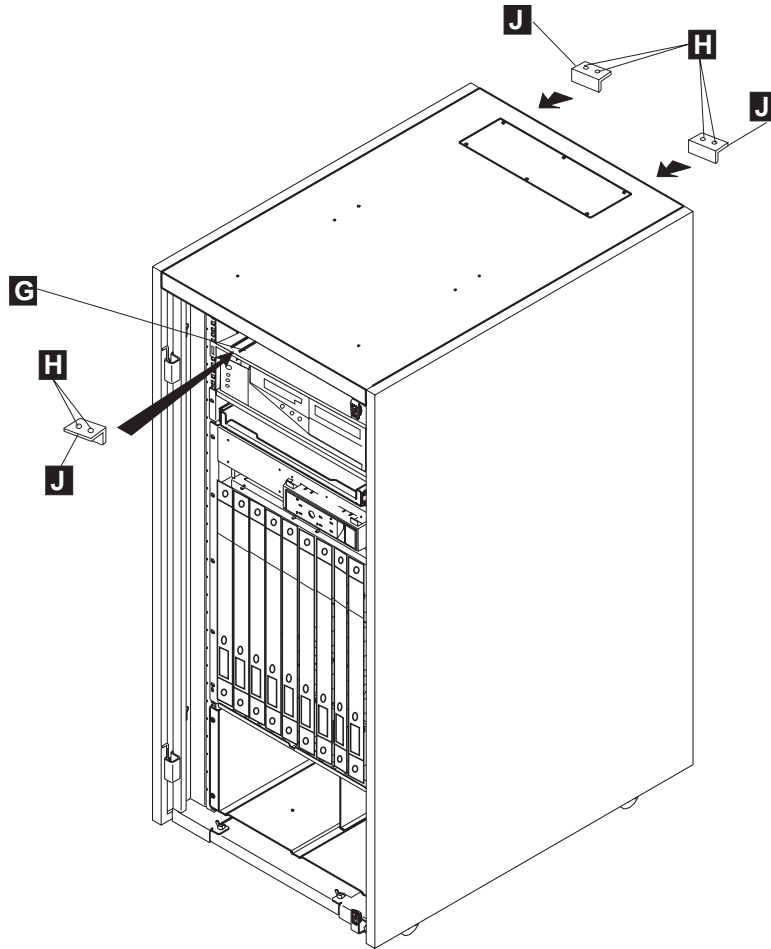

Figure 5-14. Upper Plate Installation in 29 U Rack
5. On the front of the rack install the retainer **J** and secure it with screws **H** (see Figure 5-14 on page 5-14).